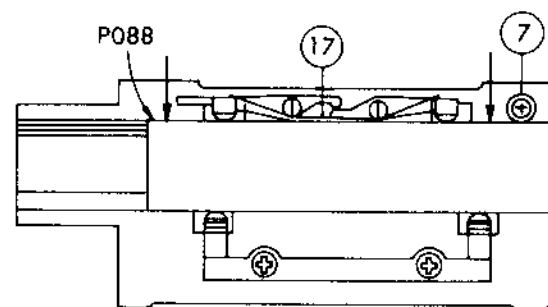

Fig. 28
3. Set the fixing guide installing gauge (P088) to 14 as shown in Fig. 28, and install 7 by slightly pushing it in arrow mark direction, so that the (7) gets tightfit with the gauge.